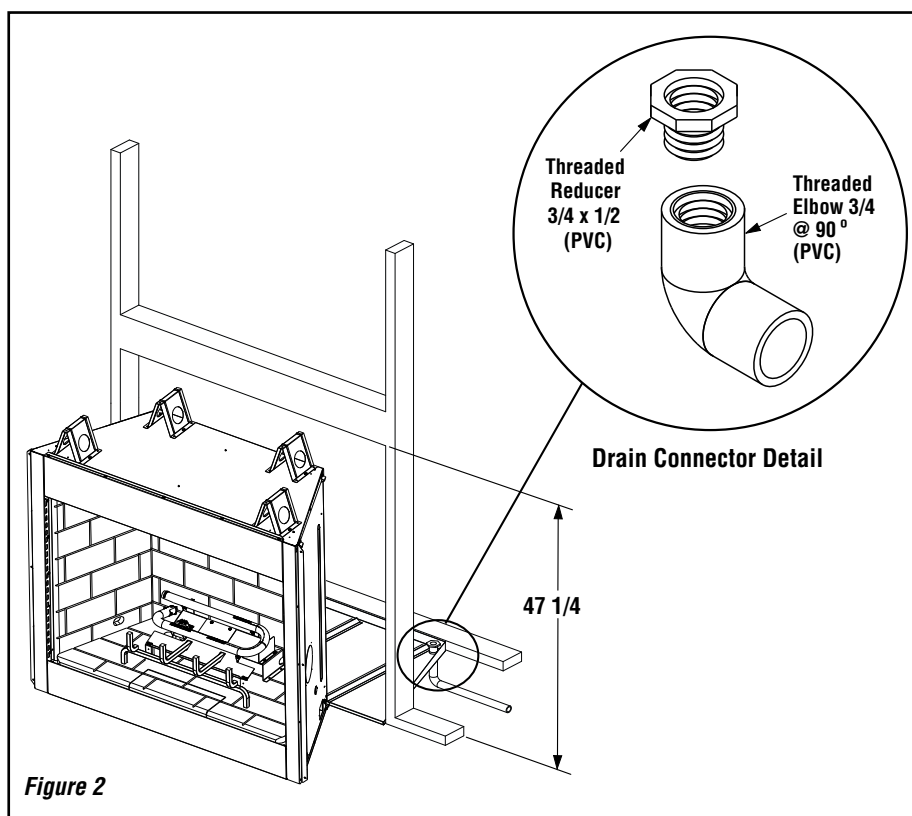

Figure 2
2. Waterproof the fireplace or install the optional drip pan (see *Waterproofing The Fireplace* and **Figure 2** on **Page 5**).
Step 1. Seal all joints, gaps and corners around the bottom of the drain pan before positioning the fireplace on its location (*Figure 2*).